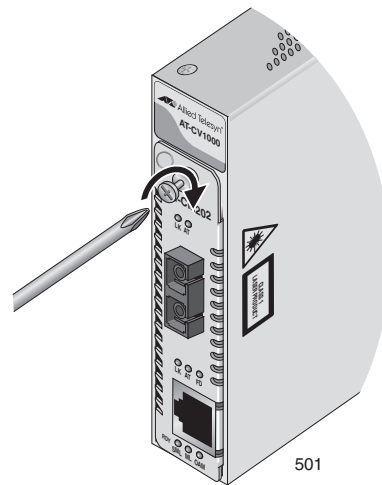

Figure 19. Tightening the Captive Screw
7. Use a Phillips screwdriver to tighten the captive screw on the line card, as shown in Figure 19.